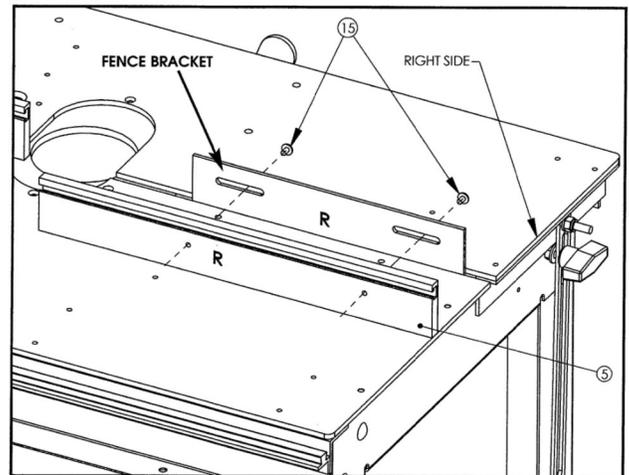

Figure 14. Fences
- Locate the (2) fences. The right hand fence is stamped with an R and the left is stamped with an L.
- Attach the fences using (4) #10-32 x 1/4" Phillips head screws to the front of the table fence brackets installed in step 5. Align the outside ends of the fences with the edge of the table and tighten screws (Figure 14).